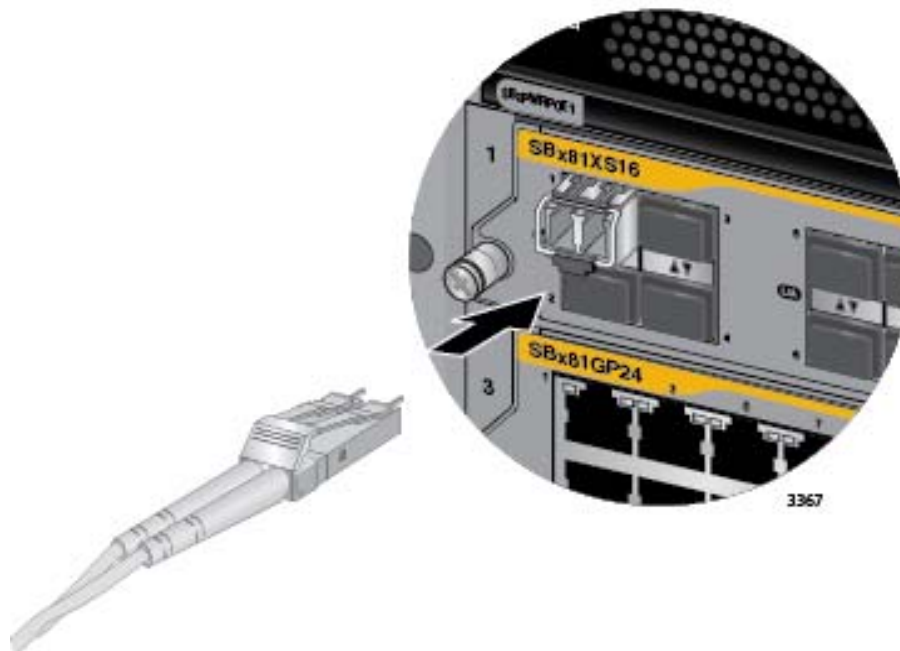

Figure 103. Attaching a Fiber Optic Cable to a Transceiver in the AT-SBx81XS16 Line Card
5. Connect the fiber optic cable to the port on the transceiver, as shown in Figure 103 on page 176. The connector should snap into the port.